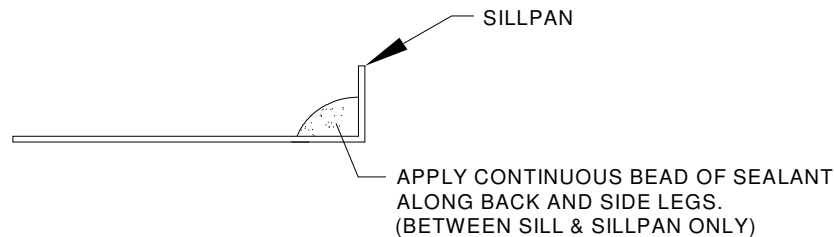

Figure 5:
- Before installing the window, apply a continuous bead of sealant along the back and side legs between the sill and sill pan. Do not apply sealant along the front edge of the sill, this will prevent proper weepage from occurring (Figure 5).